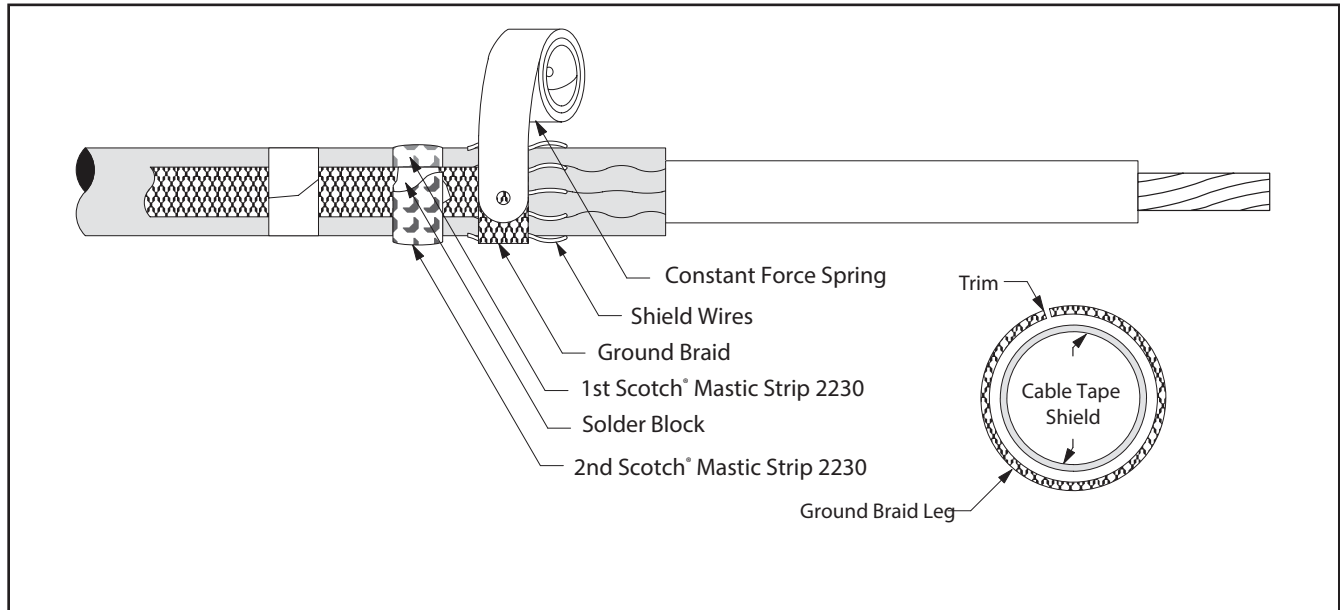

Figure 20
- 13.3 Wrap ground braid around cable shield wires one complete wrap, trim excess to prevent overlap and secure in place with constant force spring. Wrap spring in same direction as ground braid (*Figure 20*). Cinch (tighten) the spring after wrapping the final winding.
- 13.4 Select second Scotch® Mastic Strip 2230 from kit and remove white release liners. Apply a second **SINGLE WRAP** of mastic over solder block on ground braid and previously applied mastic (*Figure 20*). Cut off excess.